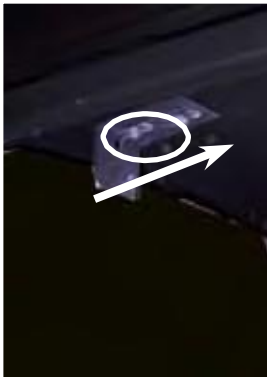

Figure 76: Brick Clip
- 1) Loosen screws securing Brick Panel Clip shown in Figure 76 and slide Clip away from wall of unit.